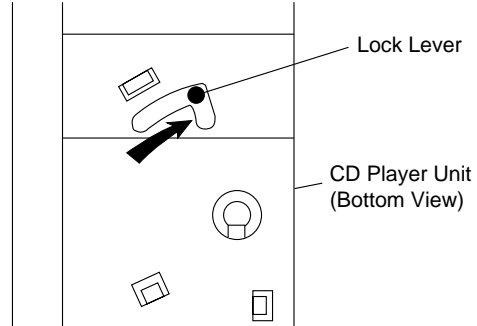

Figure 6-3
**Note 1:** How to open the changer manually. (Fig. 6-3)